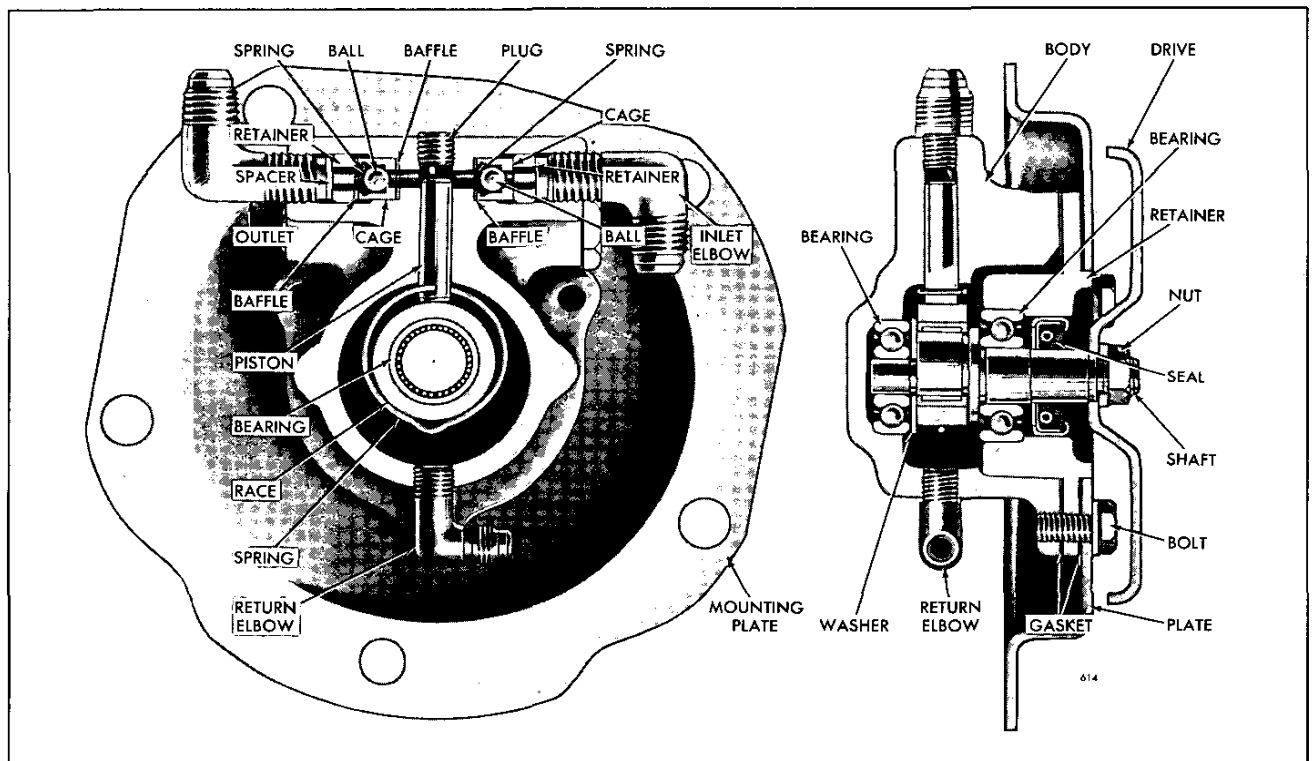
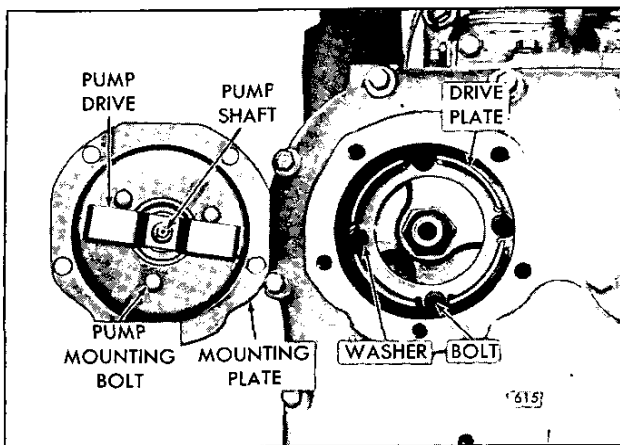

Fig. 10 – Direct Engine-Driven Hydrostarter Charging Pump
Fig. 11 - Pump Drive Plate Mounting
The direct engine-driven charging pump (Fig. 10) is a single –piston positive displacement type. The ball check valves and the unloading valve are automatically controlled by the accumulator pressure. The pump shaft is supported on ball bearings and a seal, pressed into the pump bearing retainer, prevents leakage. The pump is attached to the flywheel housing and is driven by a drive plate bolted to the camshaft gear (Fig. 11).
flywheel housing (Fig. 11). Then remove the pump and mounting plate assembly. Remove the mounting plate gasket.
With the pump removed from the engine, refer to (Figs. 10 and 12) and proceed as follows:
After cleaning, inspecting and replacing the necessary parts, refer to (Figs. 10 and 12) and proceed as follows:
- c. Place the seal installer J 7191-1 over the seal lip protector J 7191-3, covering the threaded end of the shaft. Then press the seal in flush with the retainer surface. Refer to (Figs. 10 and 15).